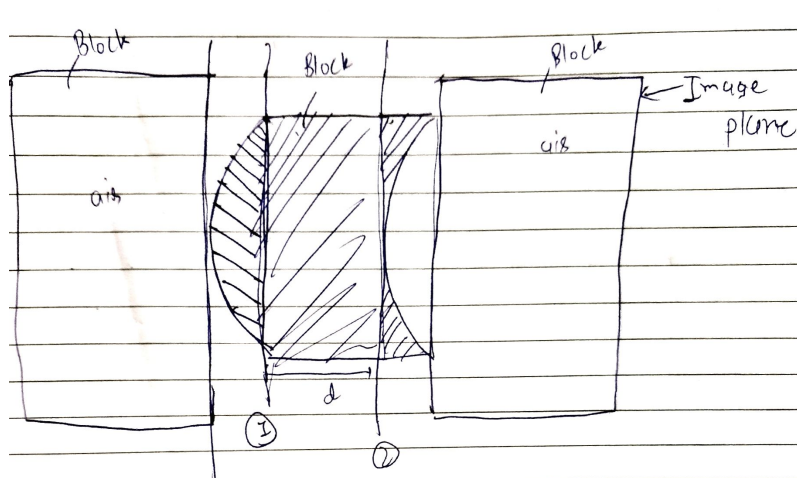

Figure 49: Optical system with parts
From these equation we can find the phase difference from  $\delta\phi = \frac{2\pi OPD}{\lambda}$ . We can use the different separate parts and its effects on the ray with python programming. Using python, I defined the total eight parts (1) convex surface with air to medium (2) convex surface with medium to air (3) concave surface with air to medium (4) concave surface with medium to air (5) air block for translation of ray (6) medium block for translation in the medium (7) refraction from plane surface (medium to air) (8) refraction from plane surface (air to medium). By combinations of all six parts, we can make any optical system in python and it gives the OPD and final height, angle with input of initial angle and height. For example, we have one optical system given in the figure 49. I divided the whole system with one block of air medium which defines the initial distance of the object. Second part is convex surface with air medium. Third one is block of medium with given thickness. Fourth part is convex surface with medium to air. Last part is block of air to define the image distance. I applied the necessary equations to find height, angle, and OPD for whole system. The code is given